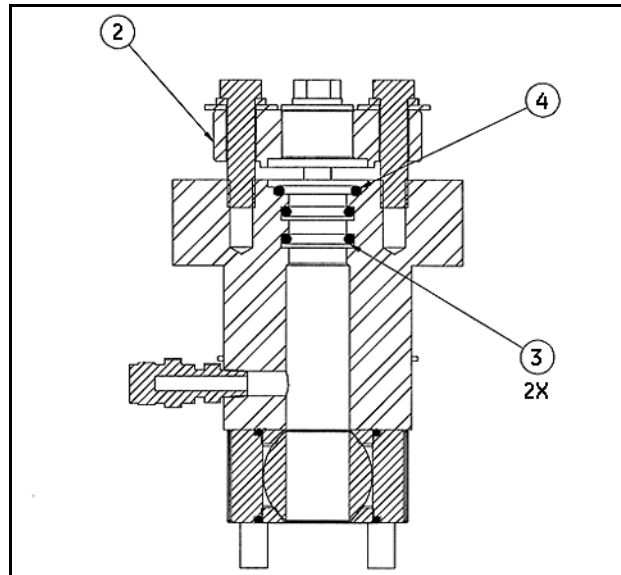

Figure 76: Holder Cross-Section - O-Ring Placement
1. Lubricate and install three new o-rings in the T11 holder (see *Figure 76* below and *Table 10* on page 93).
Note: *The item numbers shown in Figure 76 below correspond to those listed in Table 10 on page 93.*
Note: *The item numbers shown in Figure 76 below correspond to those listed in Table 11 on page 101.*